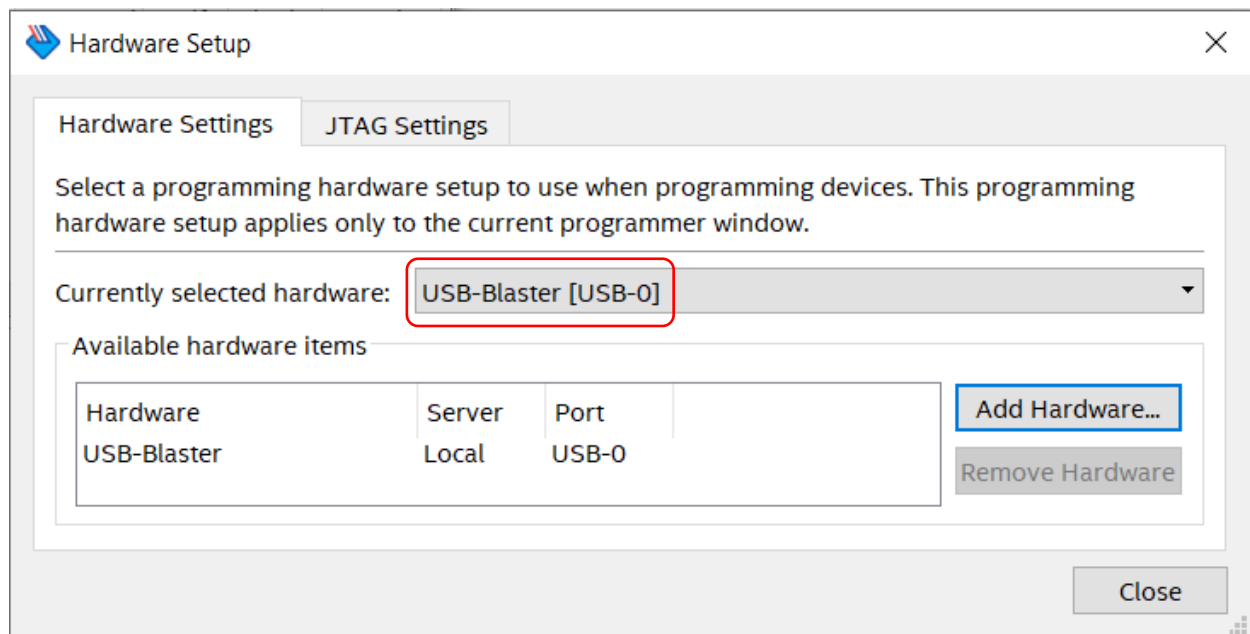

Figure 4. Hardware Setup window when USB-Blaster [USB-0] is selected
- Open the **drop-down menu** and select USB-Blaster [USB-0]. The “Hardware Setup” window will change to what you see in Figure 4. Click on Close. Now the Start button should be clickable.